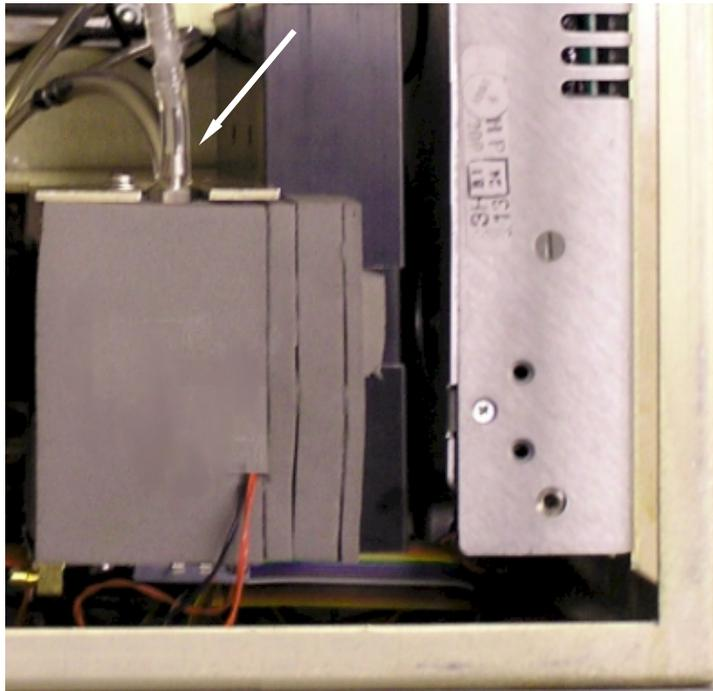

Figure 8-11
3. Identify the stainless steel barbed orifice fitting from Figure 8-11 indicated by the arrow.
A stable "volumetric" flow through the sensor is maintained using a sapphire orifice operating at a critical pressure drop. The orifice fitting is threaded into the optics block as shown in Figure 8-11. Stable critical flow through the orifice is achieved using a high vacuum diaphragm pump. For more information on critical pressure and flow refer to Chapter 5.